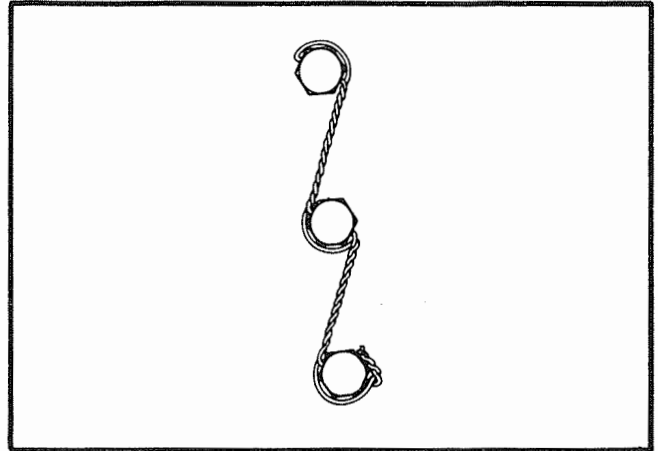

Figure 7-5. Lockwiring Three Units Together
- b. When three units are to be lockwired together, lockwire the three units together with the twists between the second and third part in a counterclockwise direction. See figure 7-5.